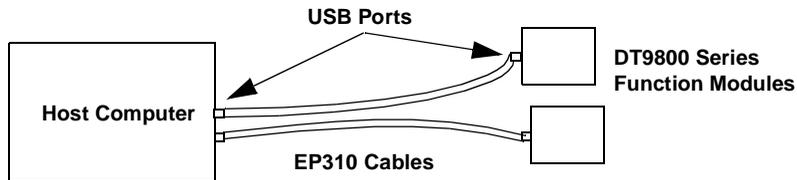

Figure 2: Attaching the DT9800 Series Function Module Directly to the Host Computer
2. Attach the other end of the EP310 cable to one of the USB ports on the host computer, as shown in Figure 2.